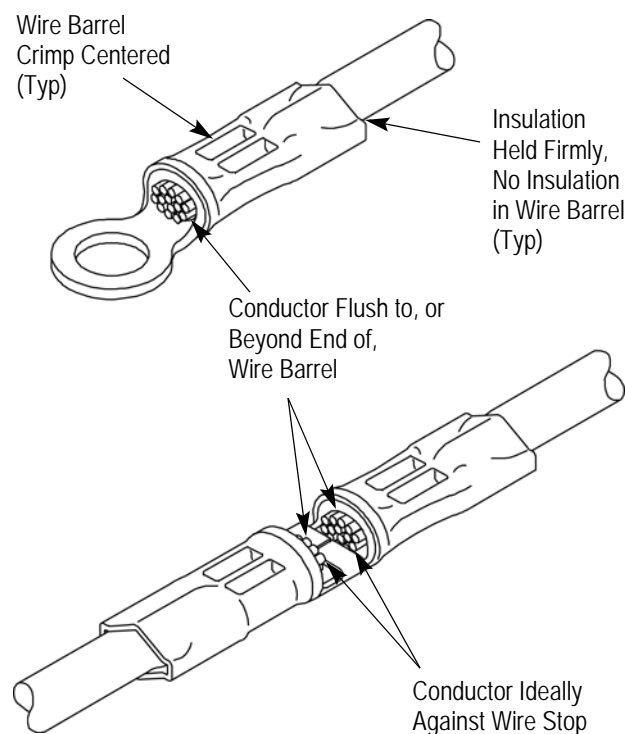

Figure 5
6. Inspect crimps for items shown in Figure 5 and pull lightly on wire to be sure insulation crimp will hold. Reject all nonconforming crimps.